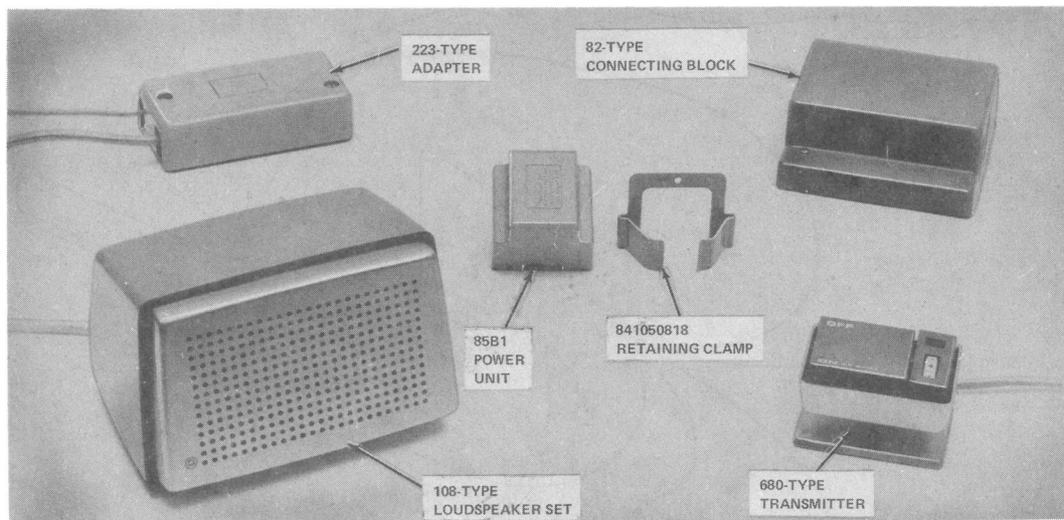

Fig. 3—Components of 4A Speakerphone System
**2.03** Components of the 4A speakerphone system are shown in Fig. 3.